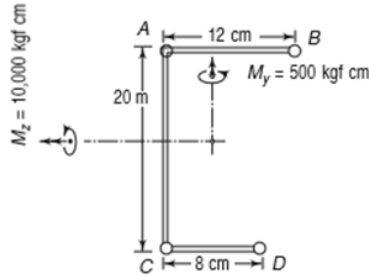

Figure 4
4. (a) For Figure 4 shown below an unsymmetrical beam section composed of four stringers A, B, C and D, each of equal area connected by a thin web. It is assumed that the web will not carry any bending stress. The beam section is subjected to the bending moments  $M_y$  and  $M_x$ , as indicated. Calculate the stresses in members A and D. The area of each stringer is  $0.6 \text{ cm}^2$  [7M]